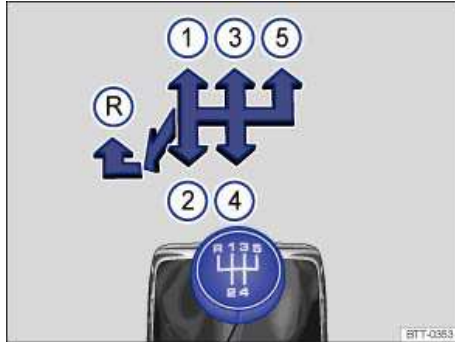
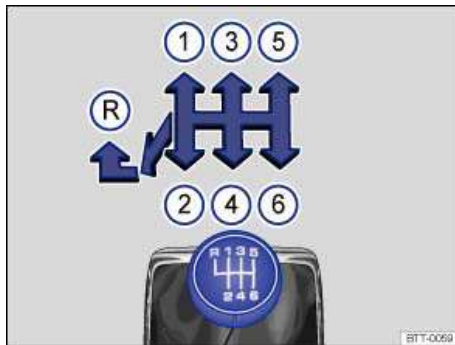

Fig. 116 Gearshift pattern of a 5-speed manual transmission.
Fig. 117 Gearshift pattern of a 6-speed manual transmission.
The positions of the individual gears are shown on the gearshift lever ⇒ fig. 116 or ⇒ fig. 117.
- Move the shift lever to the left and then push forward into the reverse gear position ⇒ fig. 116 (R) or ⇒ fig. 117 (R).